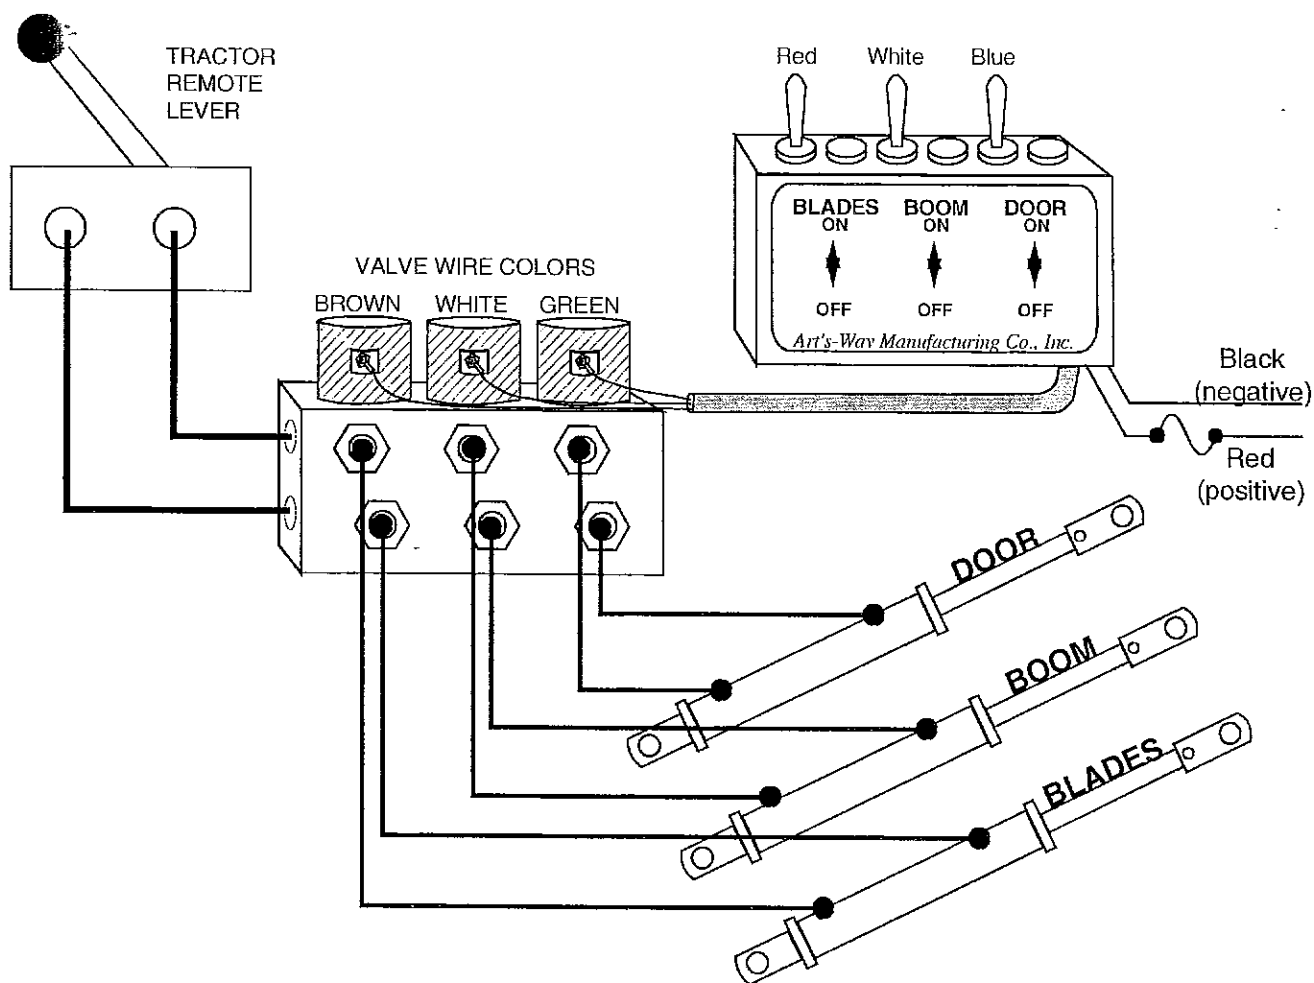
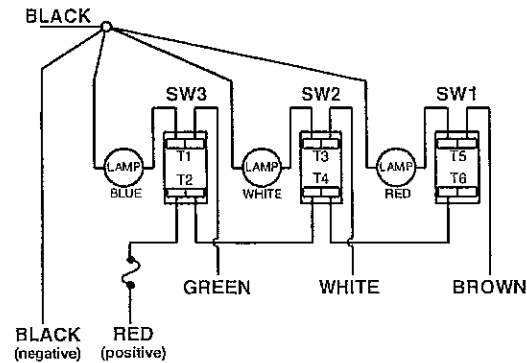

Figure 5. Valve Bank.
Figure 6. Hydraulic Control Box Wiring.
**Electro-Hydraulic Valve Bank** - Your Vertical Tub Mixer may be equipped with an optional electro-hydraulic valve bank. See Figure 5 for the electro-hydraulic layout. These systems include the discharge door (marked DOOR on the control box), plus the options of hydraulic restrictors (marked BLADES on the control box) and the conveyor extension (marked BOOM on the control box).
The decal for the control box is shipped with this manual in the manual storage tube located on the machine. It should be installed so that the function indicated on the decal is aligned with the proper color switch. See Figure 5 for proper installation.
The decal for the control box is shipped with this manual in the manual storage tube located on the machine. It should be installed on the control box so that the decal is in view of the operator and the function indicated on the decal is aligned with the proper color switch. See Figure 5 for proper switch alignment.
short. Locate the fuse as close as possible to the power source. The ground connection (black wire) should be connected directly to the frame of the tractor or the engine block. Refer to Figure 5 on page 13 for the electro-hydraulic layout. The hydraulic control box wiring (Figure 6) is provided for control box component replacement only. The control box and valve bank come pre-wired, and should not be modified. If a different control set-up is desired, the hydraulic routing in the valve should be changed, not the wiring.